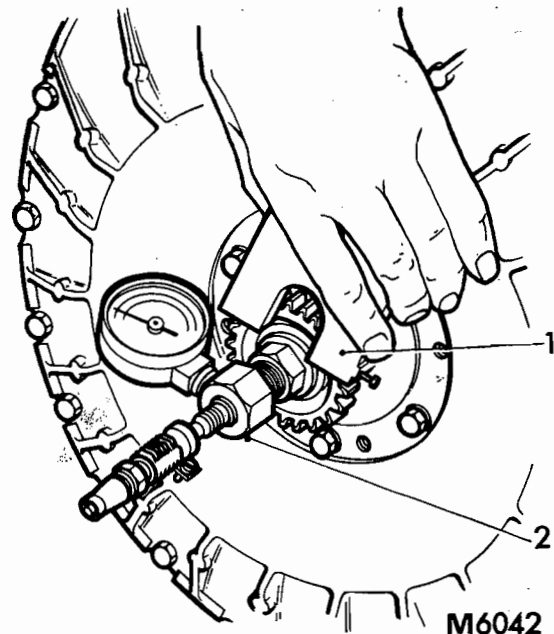

FIG. 3 APPLICATION OF SERVICE TOOL LC200
4. Insert tool LC200 as shown in Fig. 3 and tighten centre bolt until an air tight seal is formed. Pressurise the flywheel to 35 lbf/in2 and observe reading over a period of 30 minutes. No pressure drop is permissible. A fall in pressure indicates a leak which must be traced and sealed. Exhaust system and remove tool LC200.
5. Fit the piston ring (18). Refer to the relevant operation in Group 4 for the correct procedure.